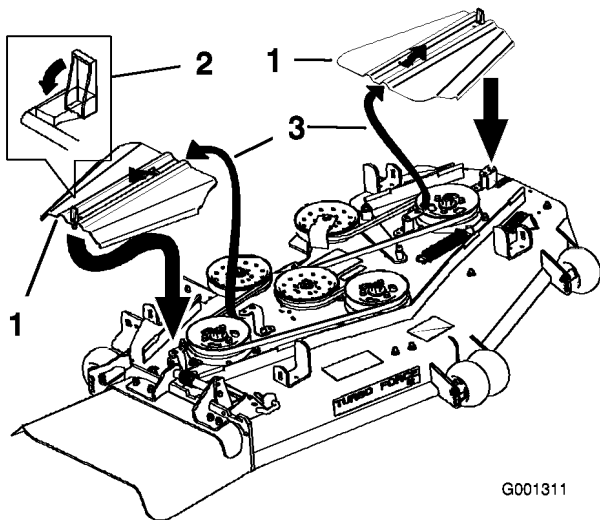

Figure 56
3. Remove the belt covers (Figure 56).
- Install the belt covers and close the latches (Figure 56).